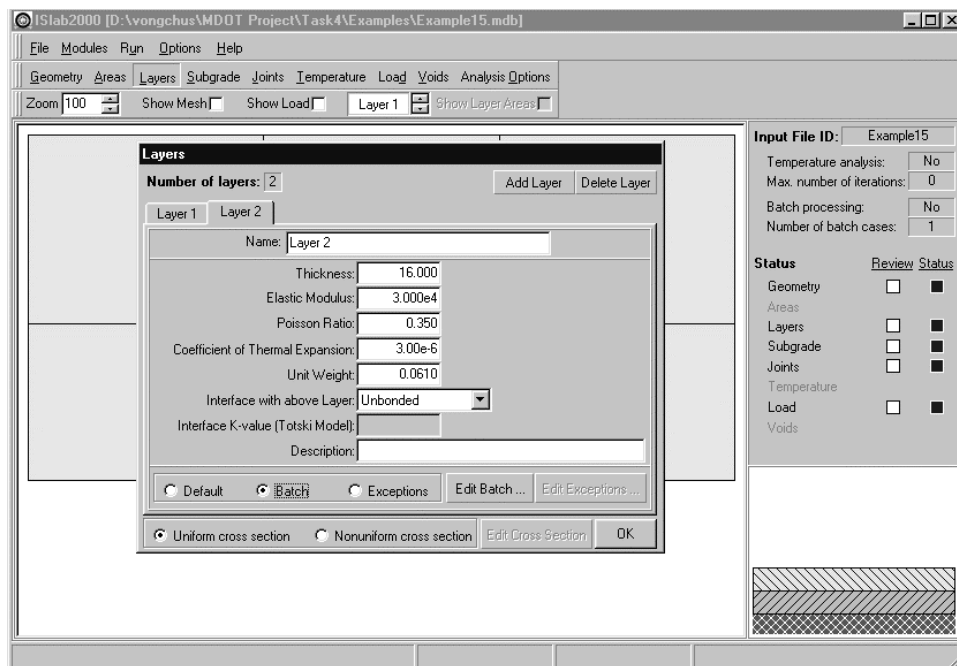

Figure E15-2: Edit Inputs for the Layers Module
(see Figures E15-2 and E15-3)
- Step 5: Select **Batch**, and then click **Edit Batch** to open the layer 2 properties panel (see Figure E15-2).